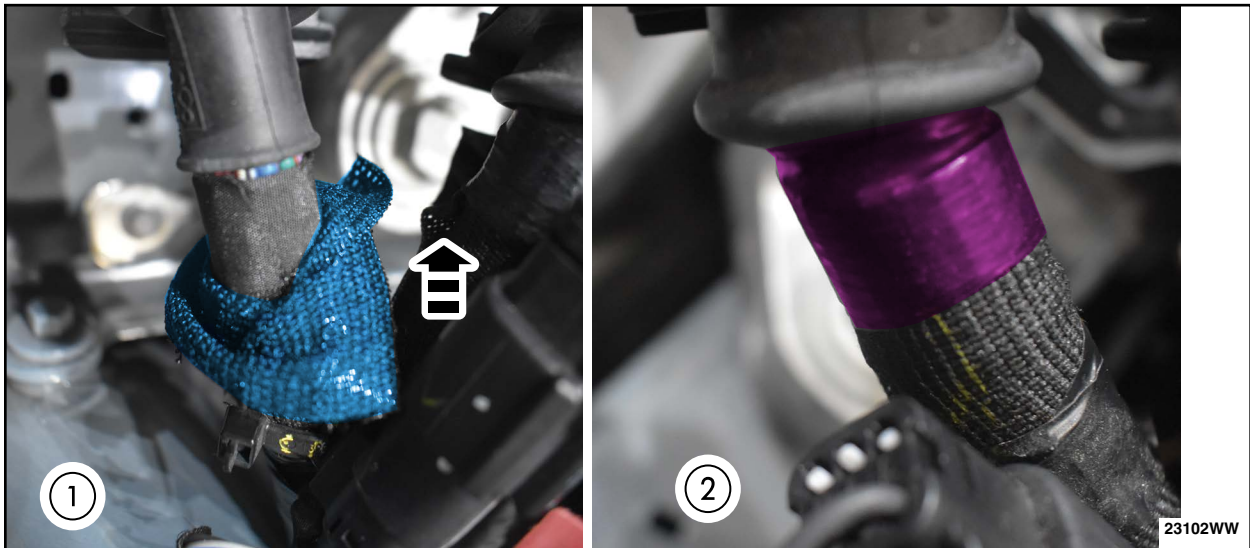

FIGURE 28
33. Reposition wire covering. Apply vinyl tape to secure the grommet point. See Figure 28.